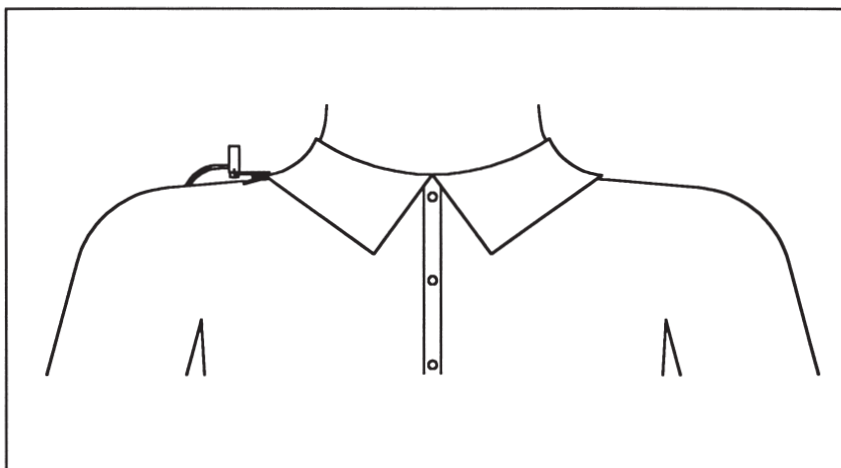

Figure 19. Placement of Microphone When Used as a Personal Monitor.
- 4.) Attach the microphone to the operator's shirt as shown in Figure 19. Keep it high on the shoulder and away from the neck as far as practical.
- Connect the Microphone to the shirt collar or shoulder. (See Figure 19.) Keep it high on the shoulder and away from the neck if possible.